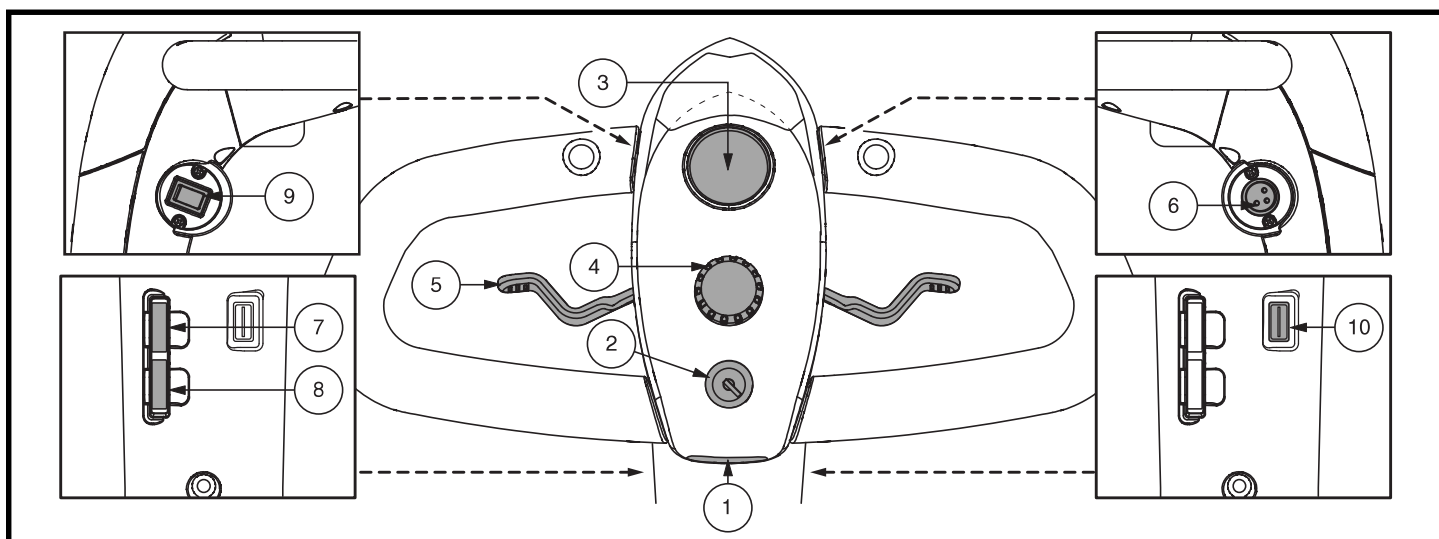

Figure 5. Tiller Console E (Model Jazzy ZTS)
*Charger Power Cord Receptacle (Tiller Port) also functions as a Programming Port in Tiller Consoles E and F (see figures 5 and 6).